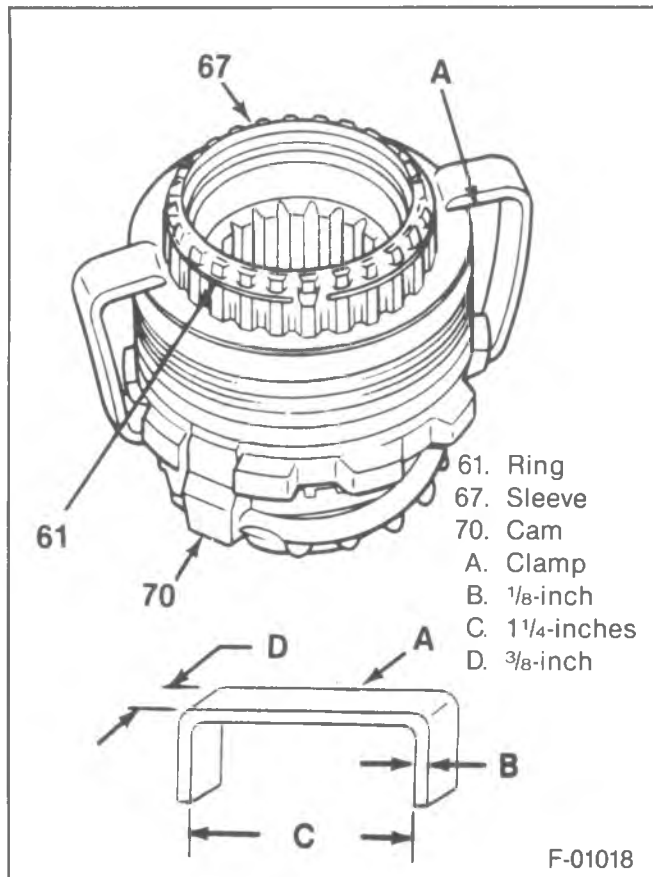

Figure 4—Compressing the Return Spring
- NEVER REMOVE THE BRAKE BAND (74) FROM THE DRAG SLEEVE (75). The spring tension of the brake band (74) can be changed if the coils are over expanded and the operation of the hub could be affected.
11. Ring (73) from the groove in the clutch gear (59).
12. Inner cage (72).
- While removing the inner cage (72) use a small screw driver to pry the plastic outer cage (71) away.
13. Outer cage (71).
- Pry the plastic outer cage (71) tabs free from the groove in the clutch gear (59) and move the outer cage (71) away.
14. Sleeve (67) from the clutch gear (59).
- Compress the return spring (64) and hold the assembly in a compressed condition by using the clamps shown in figure 4.
- Position the assembly with the clamps in place in a vice and hold both ends of the sleeve (67).
- The gear (66) and spring (69) should slide freely over the splines of the sleeve (67).
4. Stop ring (68) to the groove of the sleeve (67).
5. Retainers (63 and 65) to each end of the spring (64).
- Retainer (65) to the shoulder of the gear (66).
6. Retainer plate (62) to the retainer (63).
- Compress the return spring (64) and hold the assembly together with clamps (figure 4).
7. Ring (61) in the groove of the sleeve (67).
- Place the assembly (steps 1 through 7) into the clutch gear (59) and support the clutch gear (59) above a flat surface allowing the assembly to drop down so that the tangs of the brake band (74) may be assembled later.
8. Outer cage (71) into the clutch gear (59).
- The ramps of the outer cage (71) must face the cam (70).
- Locate the outside tabs of the outer cage (71) into the wide grooves of the clutch gear (59).
9. Inner cage (72) into the outer cage (71).
- Align the tab of the outer cage (71) with the "window" of the inner cage (72).
10. Ring (73).
- Into the groove of the clutch gear (59) above the outer cage (71).